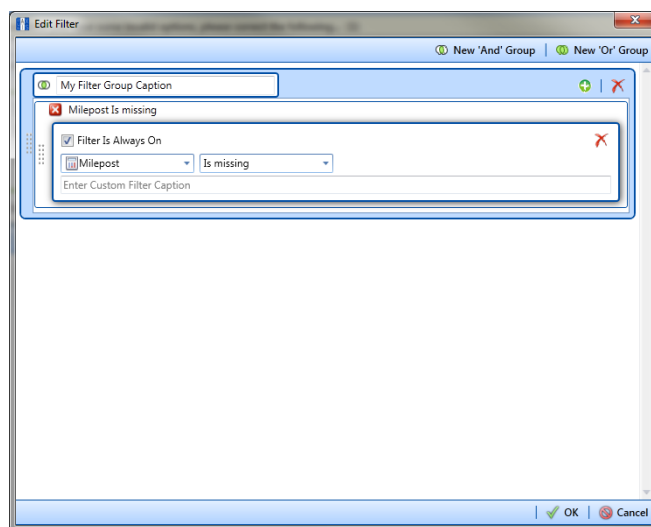

Figure 9-37. New 'And' Filter Group
- a Click  **New 'And' Group** to open the filter properties group box (Figure 9-37).